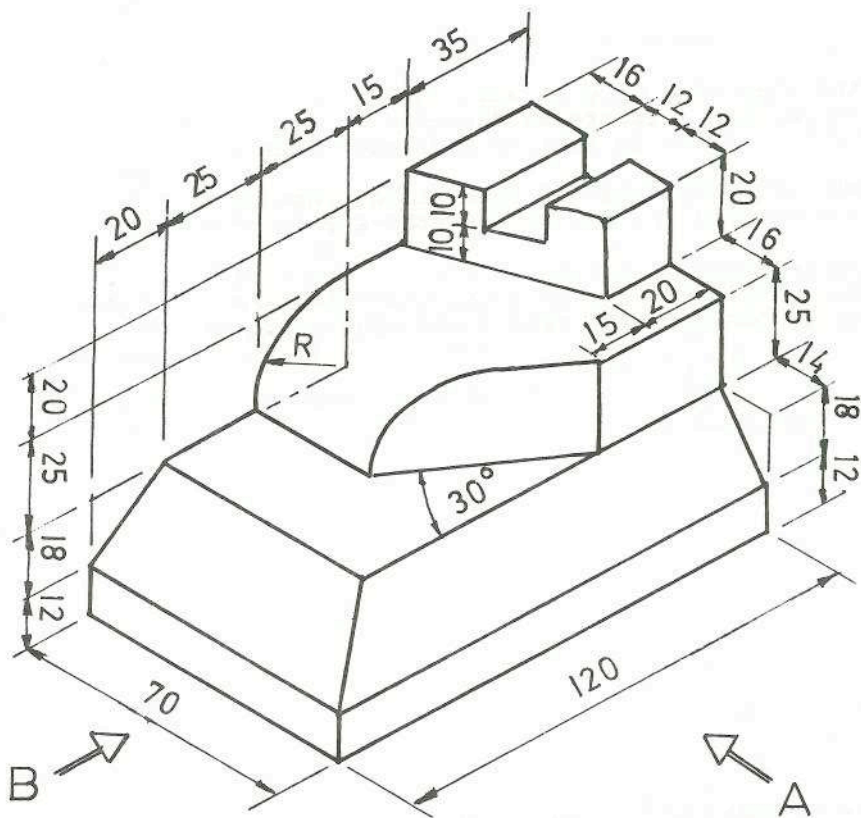

Fig. 1
1. A shaped solid is shown in Fig. 1. Make a full-size drawing of this solid in orthographic projection showing:-